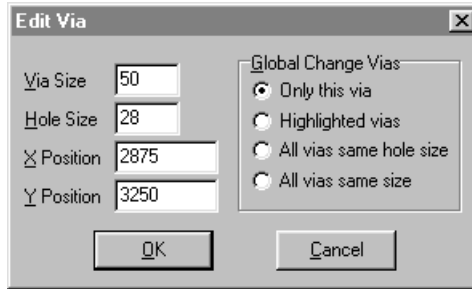

Figure 4.15. The *Edit Via* dialog box lets you change the attributes of the select via or other related vias.
Use the Edit Via dialog box (see Figure 4.15) to change the via diameter or hole diameter of a via in 1 mil (or .025mm) increments. Changes to either attribute are applied to the selected vias, or globally using the options on the Edit Via dialog box.
- 4 Choose OK, move the cursor to the location where you want to place the text, then click. Figure 4.15 shows some text that was created with the Place Text tool.